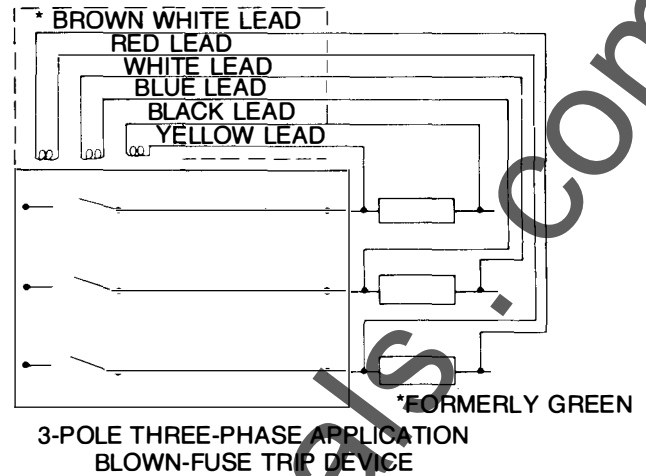

Figure 38. Wiring Diagram
4. Attach six (6) lead wires across each of the three fuses as shown in Fig. 38.